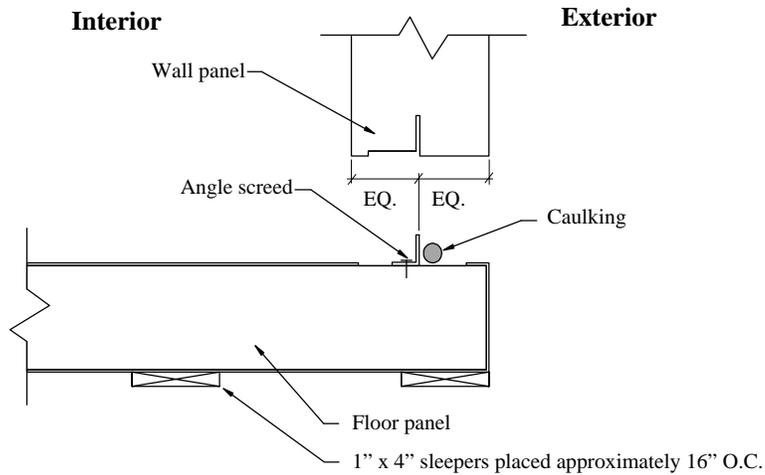

Figure 5 - Wall To Floor Assembly
2. Place a heavy bead of latex caulking on the outside of the angle screed (see figure 5).